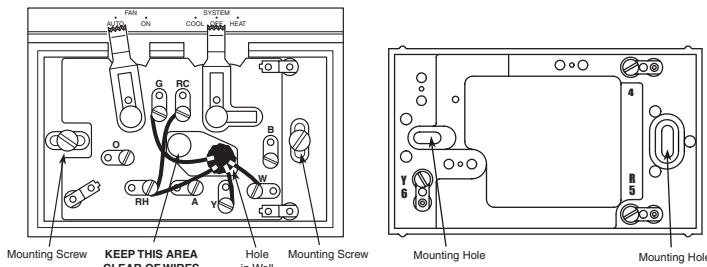

Figure 1. Thermostat subbase and wallplate
- Mount switching subbase:** Use the screws provided to mount the subbase or wallplate to wall (see Fig. 1).
- Mount Thermostat Base:** Gently push excess wire back into the wall opening and plug hole with a fire-resistant material, such as fiberglass insulation to prevent drafts from affecting thermostat operation. Mount the thermostat base to the subbase using the three captive screws on the thermostat base. (See Fig. 1) Tighten the screws securely. Proceed to Step #5.